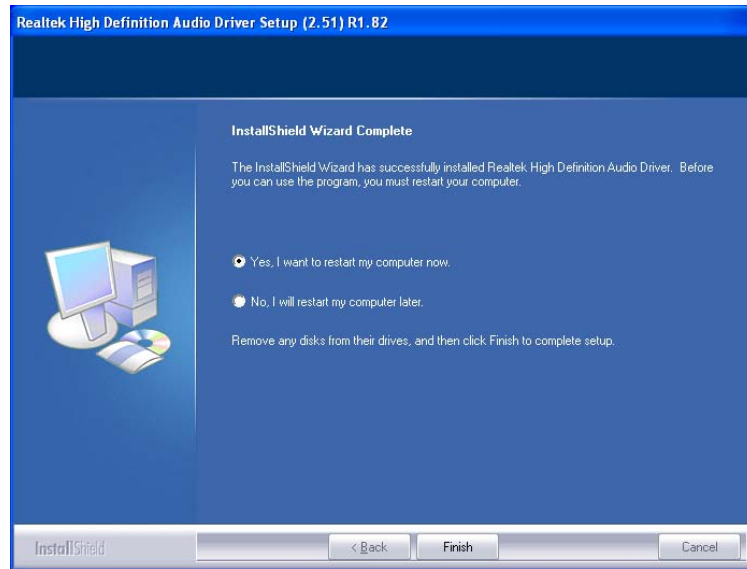

Figure 8-27: Restart the Computer
Step 12: After the driver installation process is complete, a confirmation screen appears (Figure 8-27).